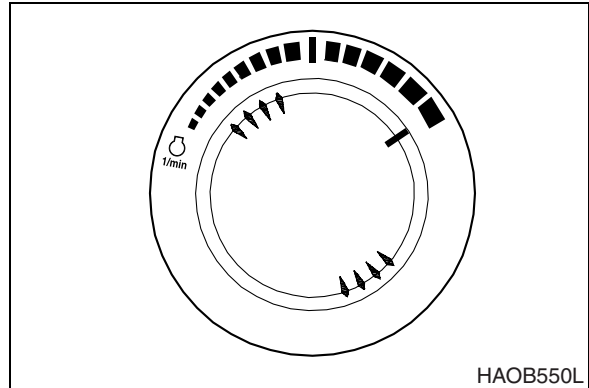

Figure 30
1. Set engine speed control dial (Figure 30) on desired speed.